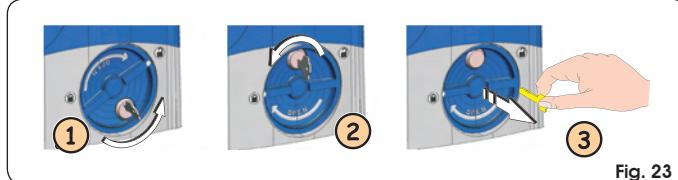

Fig. 23
1. Turn the release system anti-clockwise by about 180°, as shown in Fig. 23 ref. ①.
2. Turn the key anti-clockwise, Fig. 23 ref. ②, and remove it from the lock, as shown in Fig. 23 ref. ③.